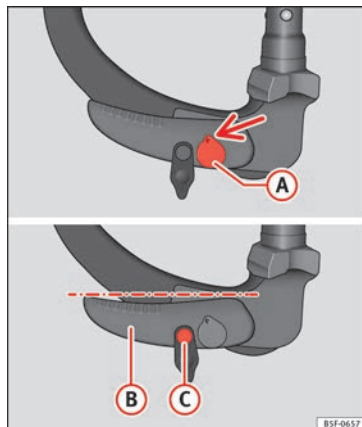

Fig. 225 Standby position: Position of the lever and the release bolt.
- Key ① »» Fig. 225 is in the released position (the part of the key with the holes is facing upwards).
- Lever ② »» Fig. 225 is in the bottom position.
- The release bolt ③ »» Fig. 225 can be moved.